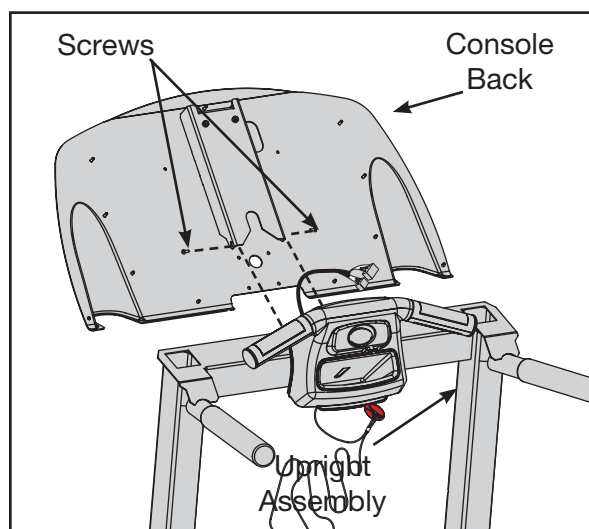

Figure 25
B. Using a Phillips head screwdriver remove the two screws that secure the console backin place. See Figure 25.
- B. Using a Philips head screwdriver install the two screws that secure the console back in place. See Figure 25.
- A. Connect these cables into the display board: the display cable (2 connectors), the contact heart rate cable, the Polar cable and the ground wire. See Figure 25.
- C. Using a Philips head screwdriver install two screws to hold the console back in place. Do not fully tighten at this time. See Figure 25.